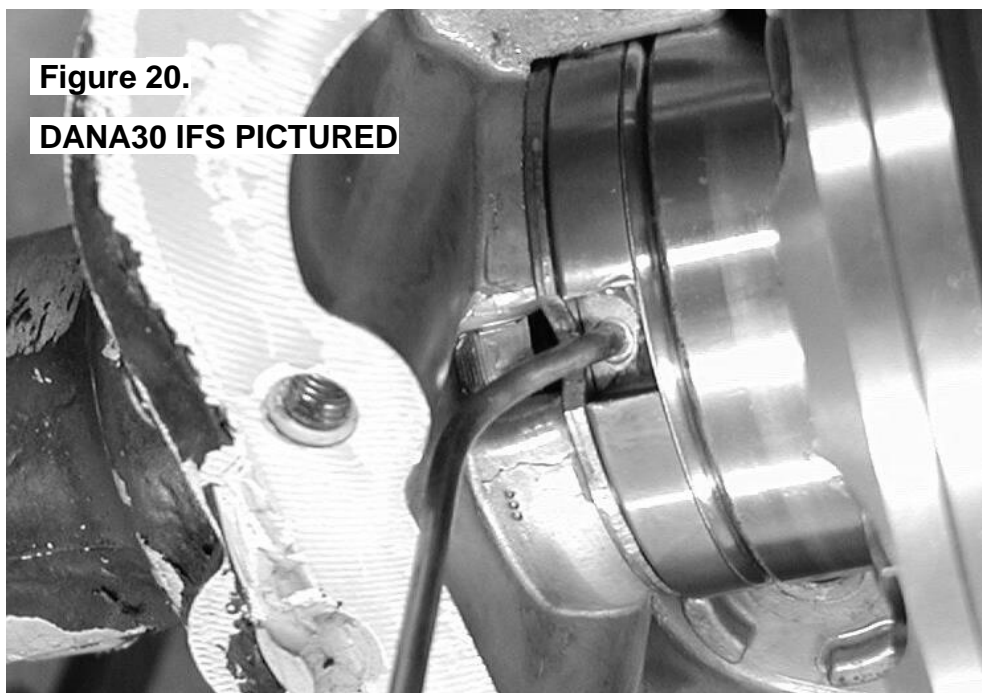

Figure 20.
- Using a soft instrument such as the wooden handle of a hammer, bend the seal housing tube outward and away from the position of the bearing cap. (Fig.20.)